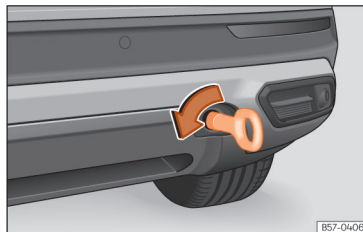

Fig. 200 Right side of the rear bumper: towline anchorage screwed in.
- Screw the towing eye in the housing by turning it to the maximum **anticlockwise** >>> **Fig. 200** , >>> ①. Use a suitable object that can completely and securely tighten the towing eye in its housing.
① NOTICE